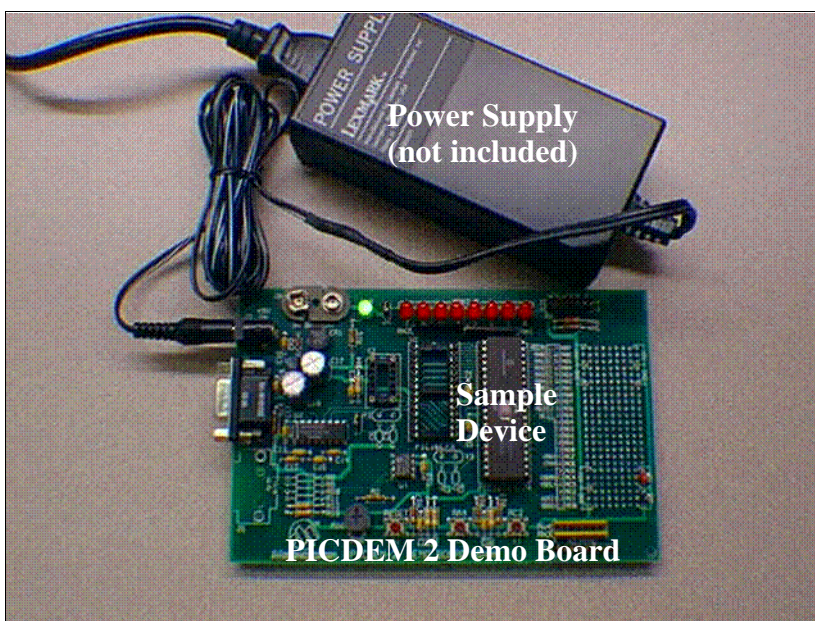

Figure 2.1: PICDEM 2 Stand-Alone
- Apply power to the PICDEM 2 (Figure 2.1). For information on acceptable power sources, see Appendix A.